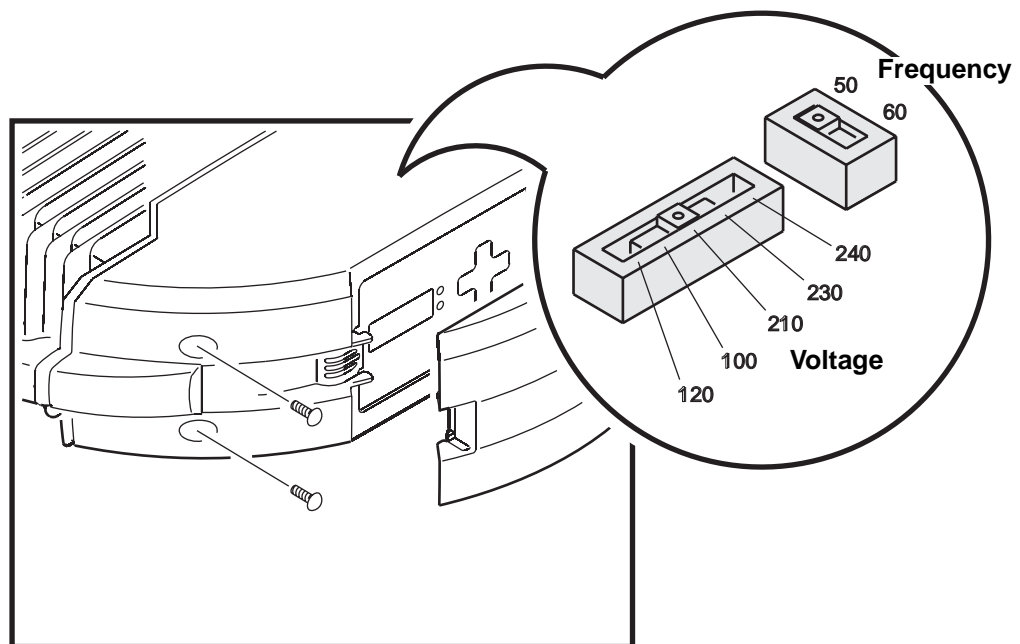

Figure 2: AC power voltage and frequency settings
2. See Figure 2. Loosen the 4 Phillips screws in the display side cover on either side of the display panel and lift the cover away from the fixture.